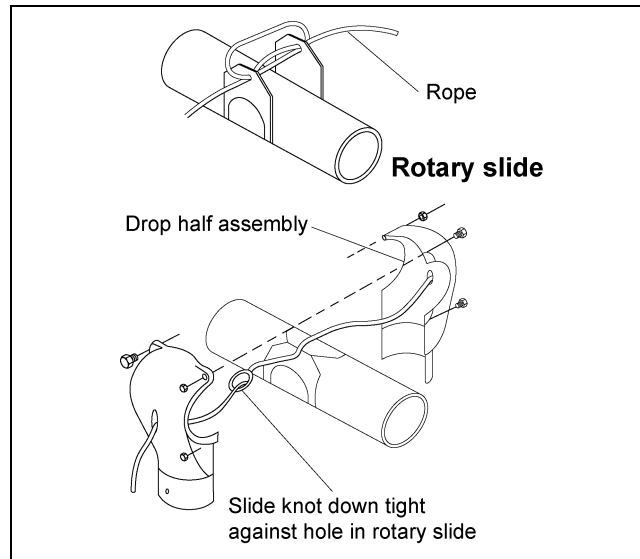

Figure 5M Drop Kit Installation
2. Thread the rope through the ends of the rotary slide as shown in Figure 5M and tie the slide ends together so that the ends of the rope are the same length.